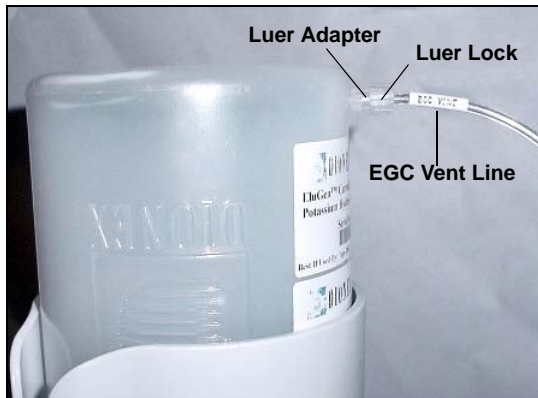

Figure 50. Installing the EluGen Cartridge Vent Line
4. Twist the luer lock and EluGen cartridge vent line into the luer adapter (see Figure 50).